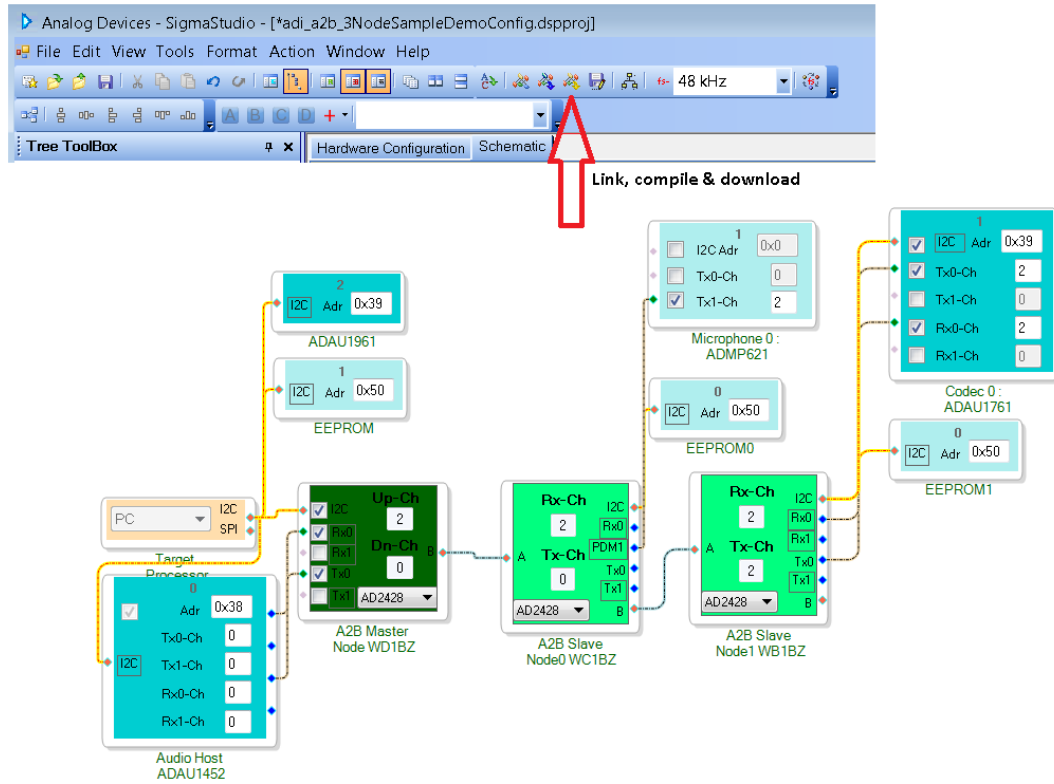

Figure 2. Software Schematic for `adi_a2b_3NodeSampleDemoConfig.dspproj` A2B Example Project
3. Open the adi\_a2b\_3NodeSampleDemo.dspproj example project, which is located in the (default) C:\Analog Devices\ADI\_A2B\_Software-Rel19.3.0\Schematics\BF\A2BSchematics directory. Click the *Link-Compile-Download* icon, as shown in Figure 2.